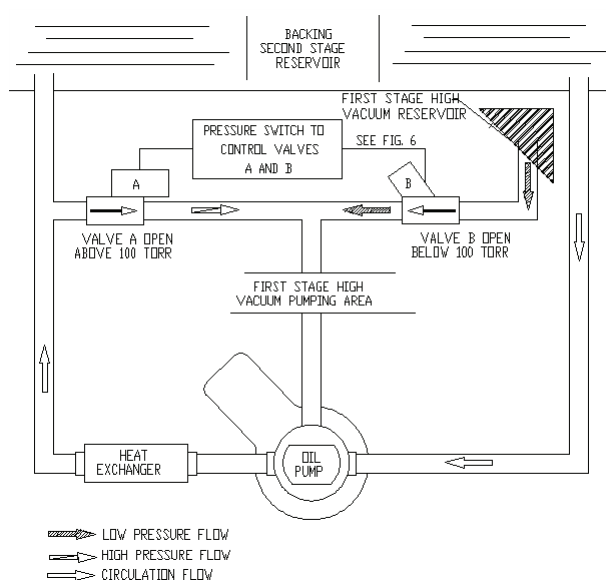

Figure 4-2 – Oil Flow - KTC-112
Figure 4-2 shows the oil flow for KTC-112 pumps. The pump circulates oil from the backing (second) stage reservoir through a water-cooled heat exchanger and back to the reservoir. When the pump is at a pressure above 100 Torr (133 mbar), some of the oil leaving the heat exchanger is admitted through solenoid valve (A) into the high-vacuum (first) stage via the bearing located on the non-drive side of the pump. Below 50 Torr (67 mbar), the pressure switch closes solenoid valve (A) and opens solenoid valve (B), and the high-vacuum (first) stage is then supplied with degassed oil from the first stage reservoir. The oil supply pressure is provided by interstate pressure and the reservoir oil head. A solenoid valve located on the drive side of the pump, which is open when the pump is running, controls oil to the backing (second) stage. Oil is delivered into the backing stage by differential pressure.